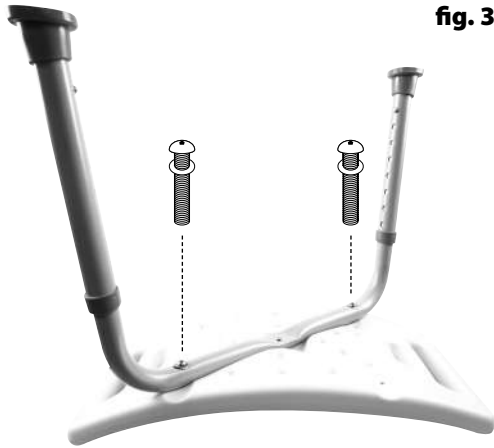

fig. 3
3. Attach leg assembly A to the seat board, using 2 x M6 screws and 2 x vaulted washers (see fig. 3)